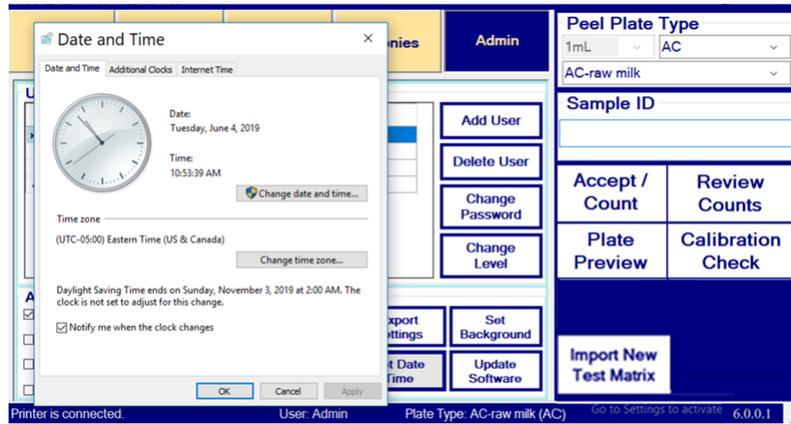

Figure 29
- The Windows Set System Date/Time window appears, (Figure 29). Press **Change date and time...** button and follow prompts to adjust day, month, date, year and time or press **Change Time Zone..** button to make zone adjustments. Day light savings and standard times must be adjusted manually using this button and is not adjusted by the counter automatically.